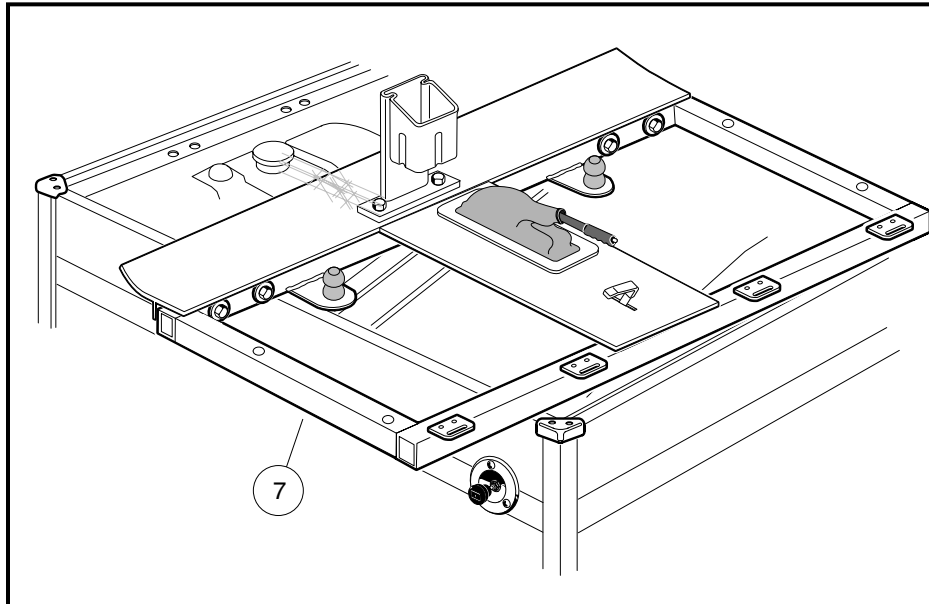

Figure 12a-33 Turf/Carryall 272 Battery Removal
2. Disconnect the battery cables as instructed (**Figure 12a-1, Page 12a-1**). **See WARNING "To avoid unintentionally starting..." in General Warning, Section 1, Page 1-2.**
- 3.3. Carefully lift and rotate the seat support 90° counterclockwise and allow it to rest on the vehicle body as illustrated (**Figure 12a-33, Page 12a-31**). **See following NOTE.**
3. Connect the battery cables, positive (+) cable first, and tighten the terminals to 20 ft-lb (27.1 N·m) (**Figure 12a-1, Page 12a-1**). Coat terminals with Battery Terminal Protector Spray (CCI P/N 1014305).